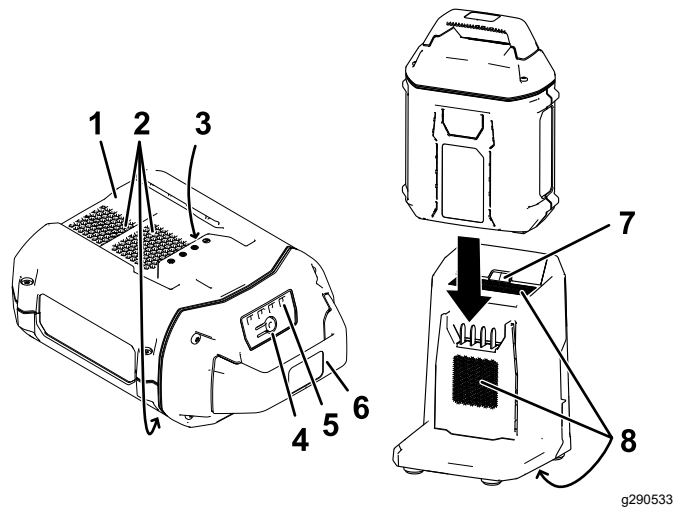

Figure 22
2. Line up the cavity in the battery pack (Figure 22) with the tongue on the charger.
3. Slide the battery pack into the charger until it is fully seated (Figure 22).